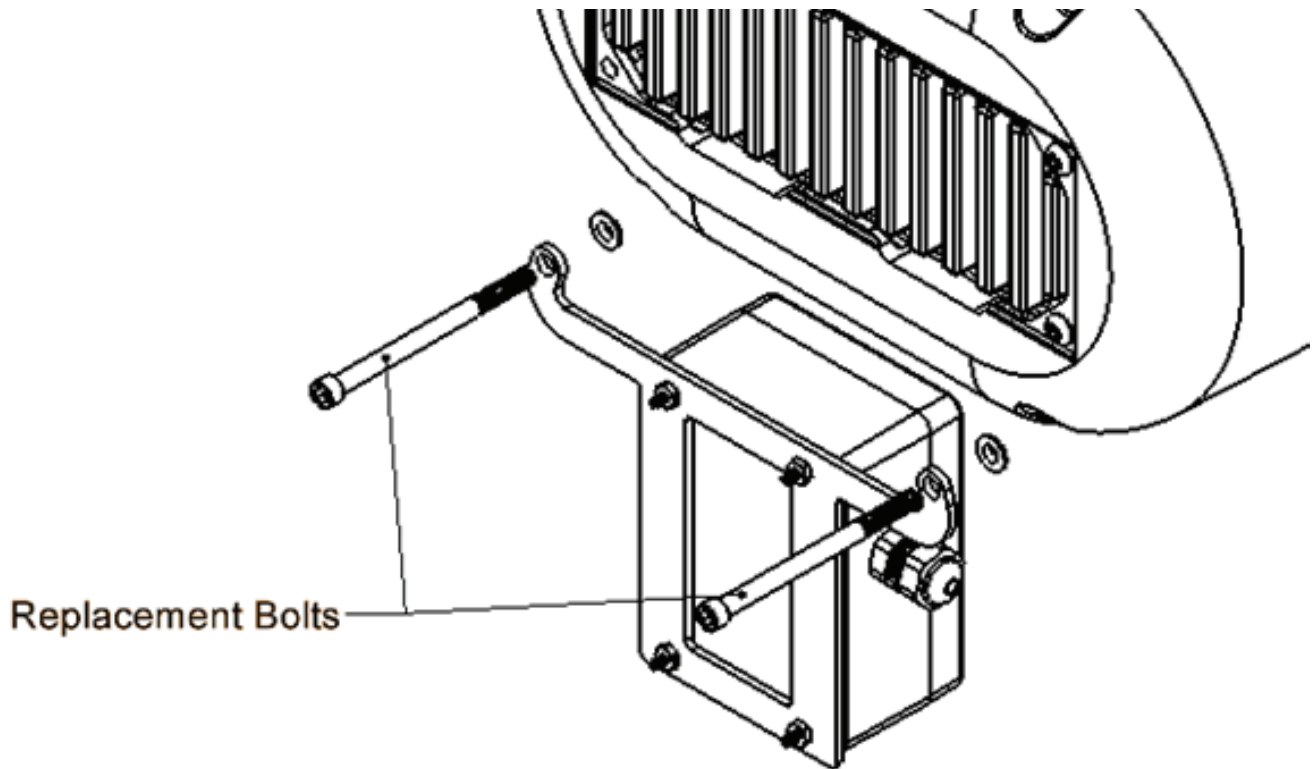
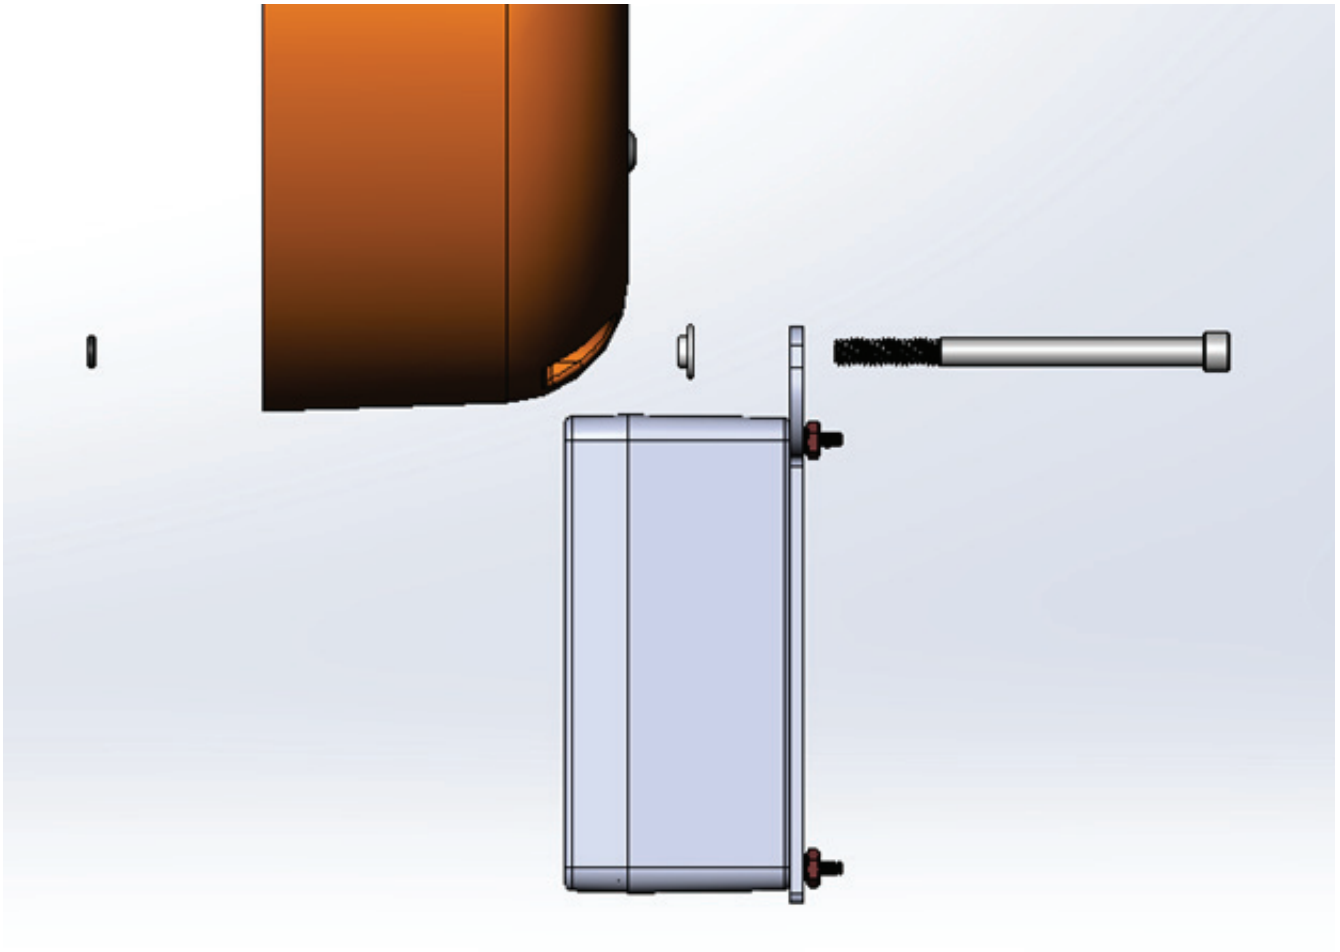

Figure 16: Replacement End Cover Bolts
Figure 17: End Cover Assembly Order
7. Use the 2 longer replacement end cover bolts (shown with the replacement O-ring and washer in **Figure 16** and **Figure 17**). Place the hoist brake end cover back on and torque the bolts to (50-60 in-lbs). The bolts on the top of the hoist for the end cover do not require replacement unless they suffer damage, since they do not need to be longer to accommodate the bracket. Place the bolt retaining O-rings on the inside of the cover while the washer is between the cover and the bracket.